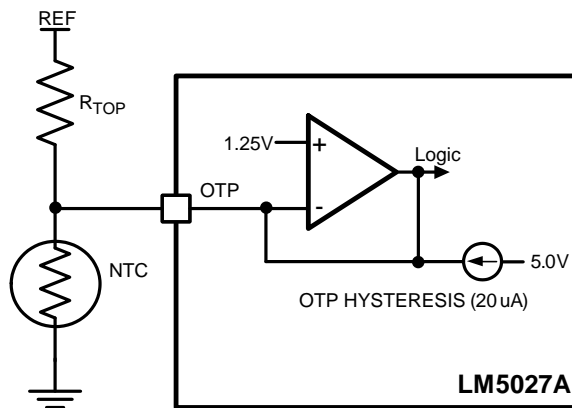

Figure 24. External OTP Protection
An external set-point voltage divider between the REF, OTP, and AGND pins, as shown in Figure 24, is one method to implement over-temperature protection shutdown. Typically a NTC thermistor is installed as the lower device of the voltage divider. The divider must be designed such that the voltage at the OTP pin will be greater than 1.25V when there is not an over-temperature condition, and the OTP pin must drop below 1.25V during an over-temperature event. OTP hysteresis is accomplished with an internal 20  $\mu$ A current source that is switched on or off into the impedance of the external set-point divider. When the OTP pin voltage exceeds 1.25V threshold, the current source is activated to quickly raise the voltage at the OTP pin. When the OTP pin voltage falls below the 1.25V threshold, the current source is turned off causing the voltage at the OTP pin to quickly fall. When OTP falls below 1.25V the LM5027A will go through a soft-stop turn-off sequence.
**Table 2** is a Truth Table which describes the faults and events that control the LM5027A drive outputs. For example the first event is with UVLO being pulled below 0.4V, a possible remote shutdown condition. When this occurs the SS, and SSSR capacitors are discharged, and the three drive outputs will stop switching (outputs low). The last fault is if the OTP pin is pulled low <1.25V, this would occur if an OTP protection circuit is used, see Figure 24. In an OTP event, the LM5027A goes into a soft-stop shutdown.